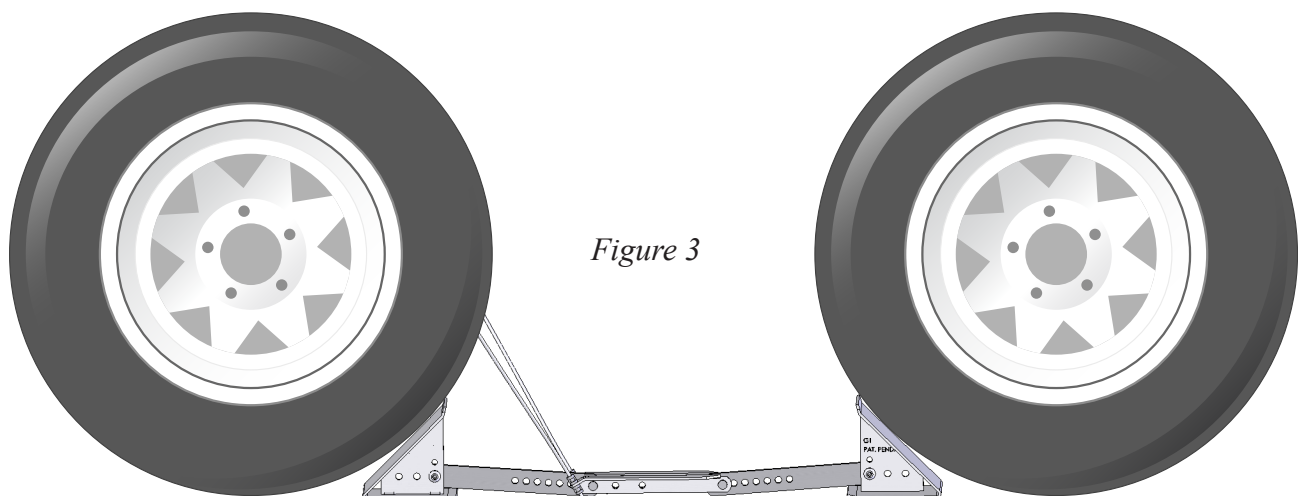

Figure 3
6) Place the chock between the tires again. It should fit snugly between the tires, with the center arms not dropping all the way to the ground. Step down on the center arms to lock the chock into place. Pull up on the cable handle to remove the chock. *See Figure 3.*